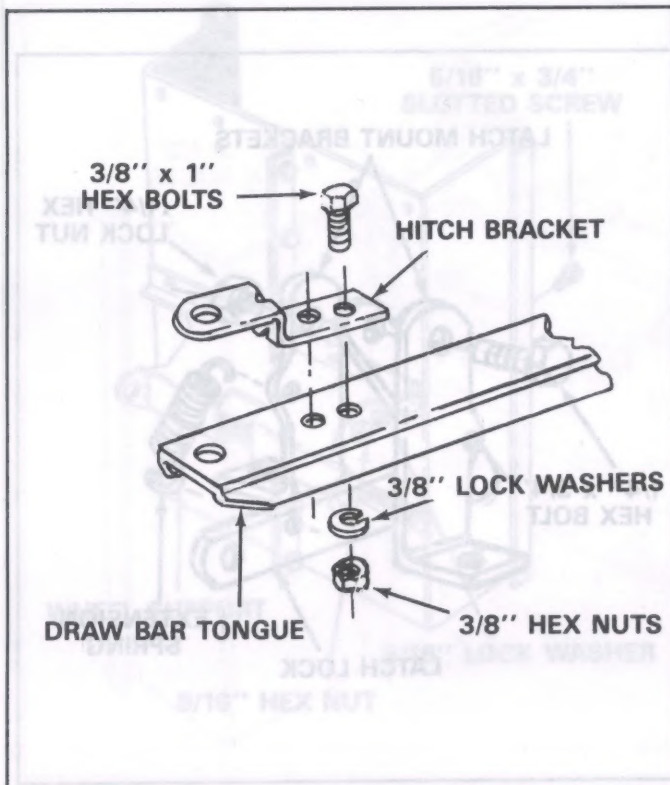

FIGURE 11
17. Assemble hitch bracket to drawbar tongue using 3/8" x 1" long hex bolts, 3/8" lock washers and 3/8" hex nuts. See figure 11.